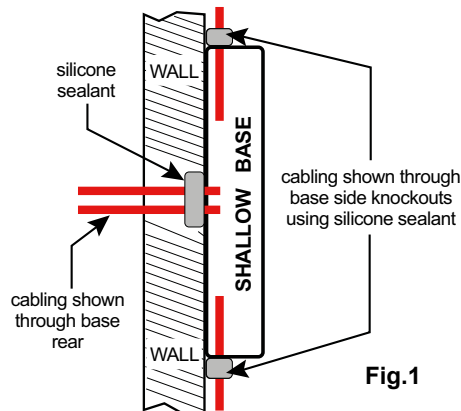
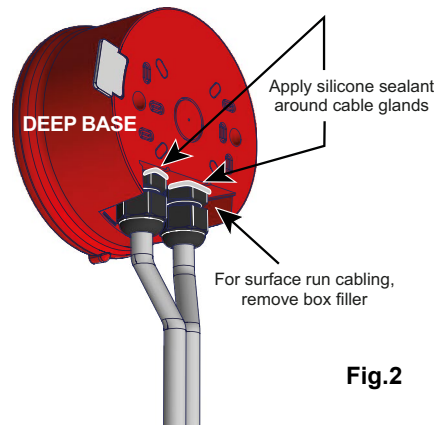

Fig.1
Fig.2
**Note: When mounted on an outside wall, cables should enter the deep base from below and not from the top (unless under cover). See Fig.2 below and refer to page 3 for rotating the inner base 180 degrees.**
Where installers might have a water/moisture ingress occurrence, suggested sealing methods for shallow and deep base models are shown in Fig.1 & Fig.2 below.